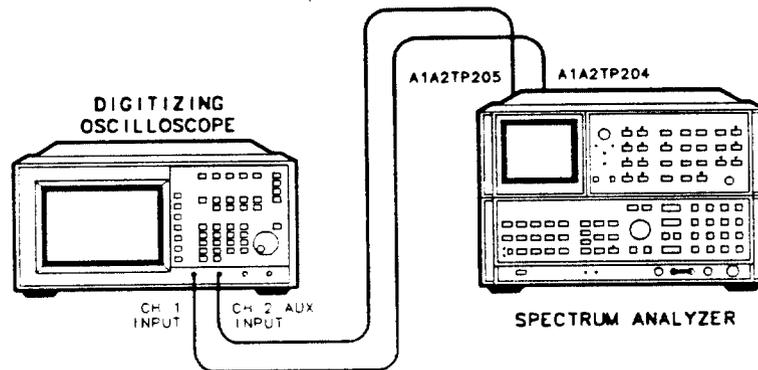
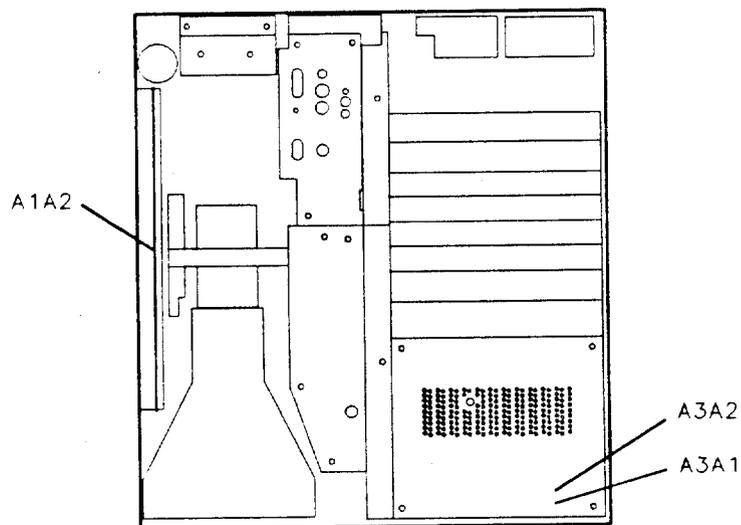

Figure 10. Preliminary Display Adjustments Setup
Figure 11. Location of A1A2 and A3A2
- Connect the channel 1 calibrated 10:1 divider probe to A1A2TP204, and the channel 2 AUX probe to A1A2TP205, as shown in Figure 10. Connect the probe's ground leads to A1A2TP106. See Figures 11 and 12 for the location of the assemblies and adjustments.
- Remove the cover over A3 Digital Storage section and remove A3A2 Intensity Control Assembly. Insert the display adjustment PC board (HP part number 85662-60088) in place of A3A2. See Figure 11 for the location of the A3A2 assembly.